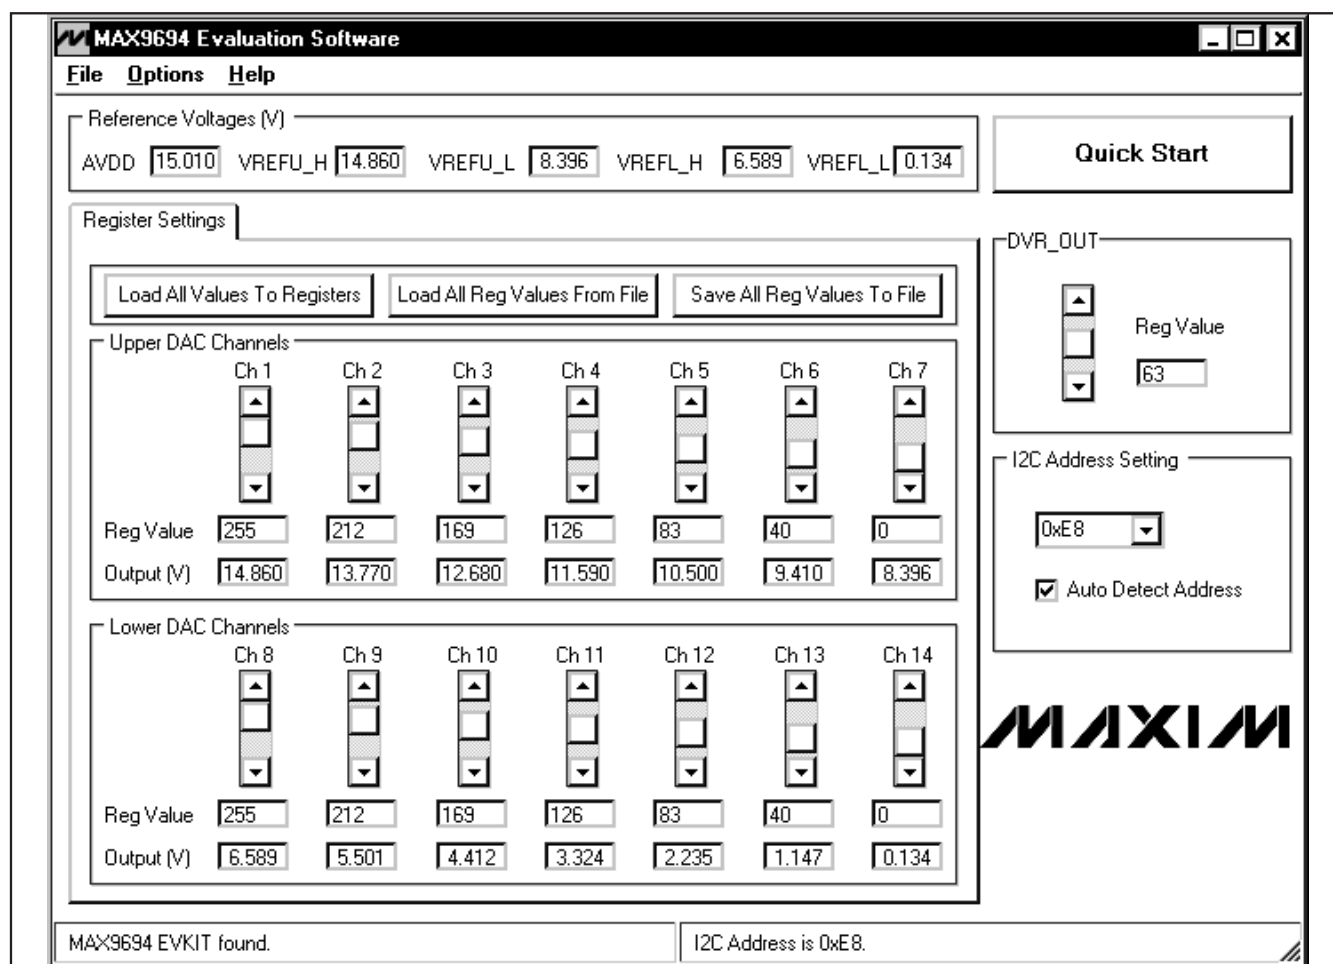

Figure 1. MAX9694 Evaluation Software Main Window
- 13) Start the MAX9694 EV kit software by opening its icon in the **Start | Programs** menu. The EV kit software main window appears, as shown in Figure 1.
- 14) Use the DVM voltage probe to measure the reference input voltages on the VREFU_H, VREFU_L, VREFL_H, and VREFL_L PCB pads, and type those values into the corresponding edit boxes of the **Reference Voltages (V)** group box in the software.
The MAX9694 evaluation software main window is shown in Figure 1. The GUI software automatically detects the MAX9694 device address and displays it in the **I2C Address Setting** drop-down list and in the software status bar. The DAC output voltages in the **Upper DAC Channels** and **Lower DAC Channels** group boxes are calculated using the upper and lower reference input voltages on PCB pads VREFU_H, VREFU_L, VREFL_H, and VREFL_L. The reference input voltages
The **Quick Start** button loads all registers with the values shown in Figure 1.